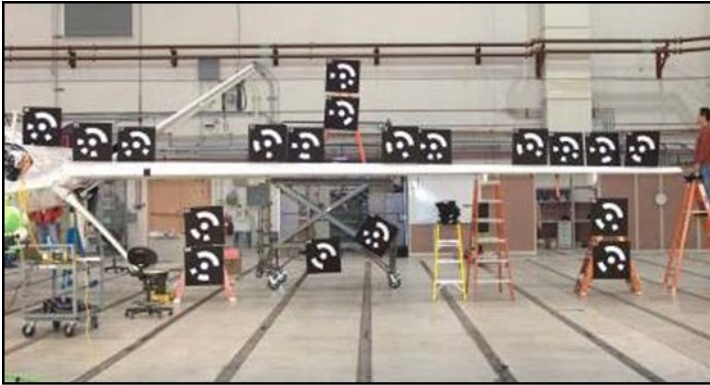

Figure 2: Barcoded targets used for the optical system measurements.
-coded targets placed on the left wing and center fuselage at 10 measurement locations (Figure 2). The maximum loads applied to the wings were